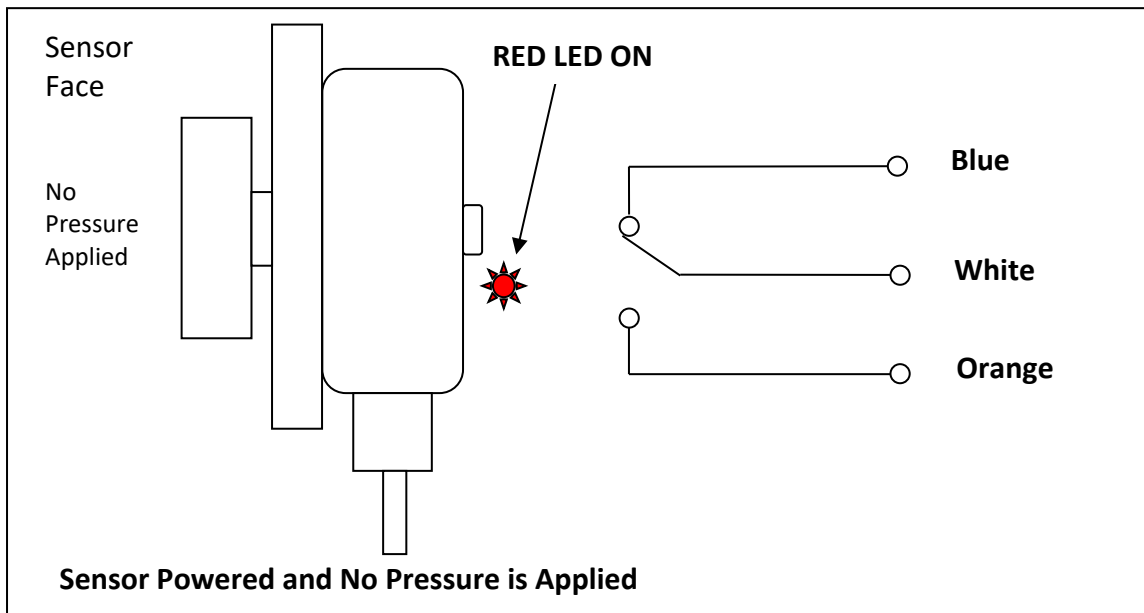
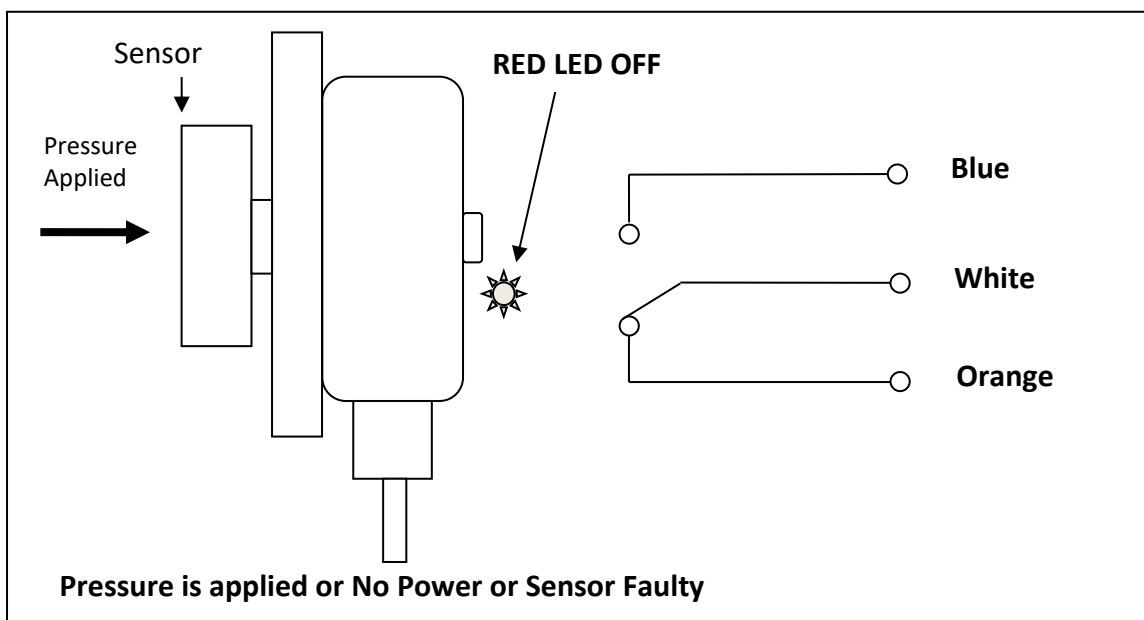

Figure 8 - TouchSwitch in OK Condition
Figure 9 - TouchSwitch in Alarm Condition
This is an electronic limit switch. The sensor reacts to pressure applied to the sensor face. If the **pressure is higher than 3.6kg**, then the sensor switches the relay to an **alarm condition** (see Figure 9). If the sensor is correctly powered, working and no pressure is applied to the sensor face then the sensor will energize the relay and indicate the OK state by a lit-up LED (see Figure 8).
- 1) Observe that the red output LED on the sensor housing (see Figure 8) is ON and the belt or pulley are not touching the sensor
- 3) Check that the alarms and shutdowns of the overall system work as expected (see Figure 9)